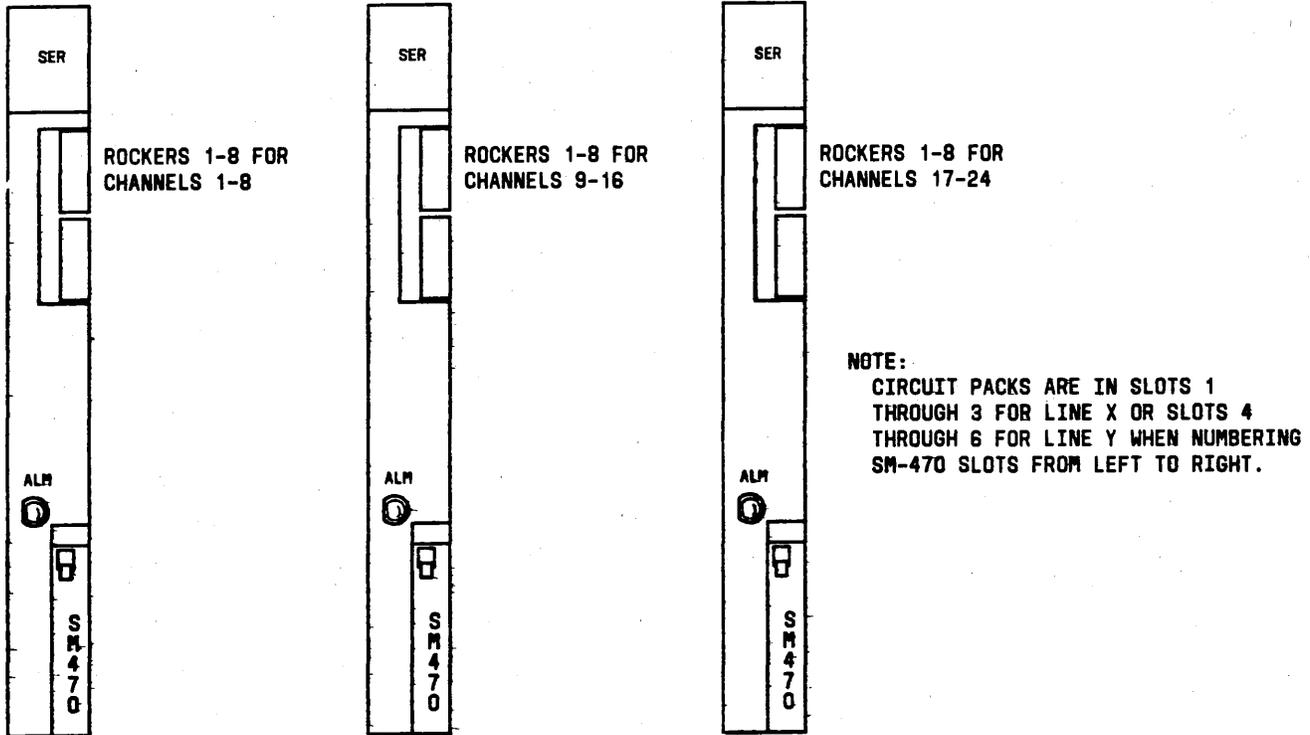

Fig. 18—32-MS Tail for Channels 1 Through 24
- To provide echo canceling for all 24 channels, specify circuit packs SM470 be installed in slots 1, 2, and 3 for line x or slots 4, 5, and 6 for line y. Figure 18 shows which rockers apply to which channels.